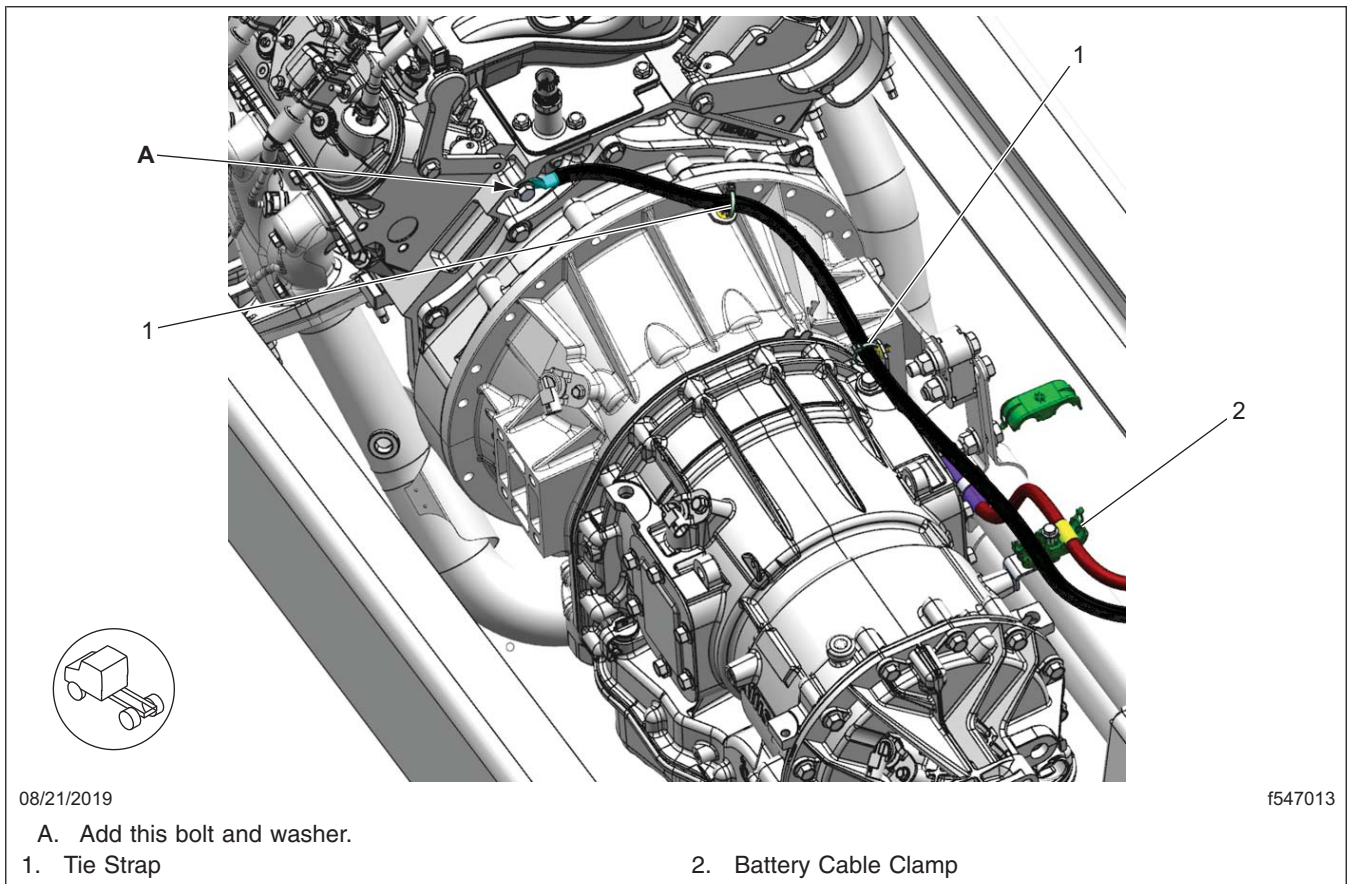

Fig. 6, Cable Routing, Standard Installation
18. Using the new bolt and washer, install the new engine battery ground cable and engine harness ground wire as shown in **Fig. 6** for a standard installation.